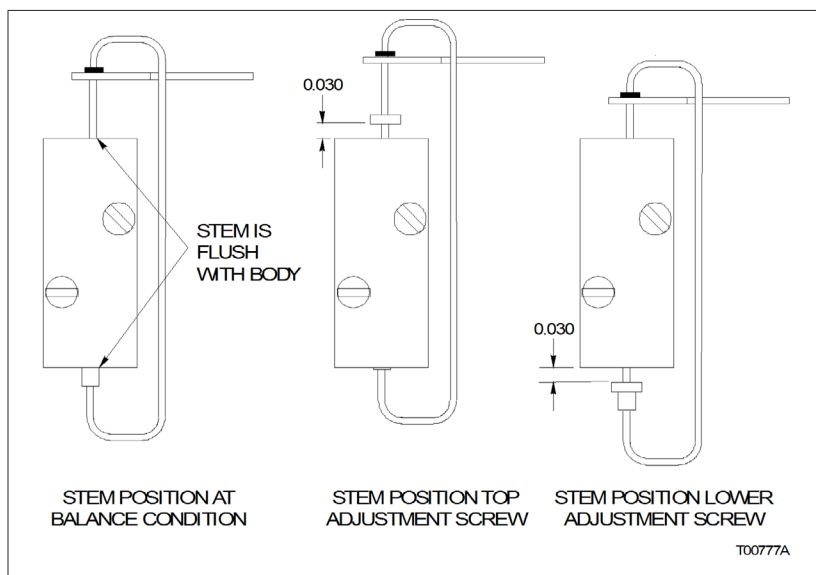
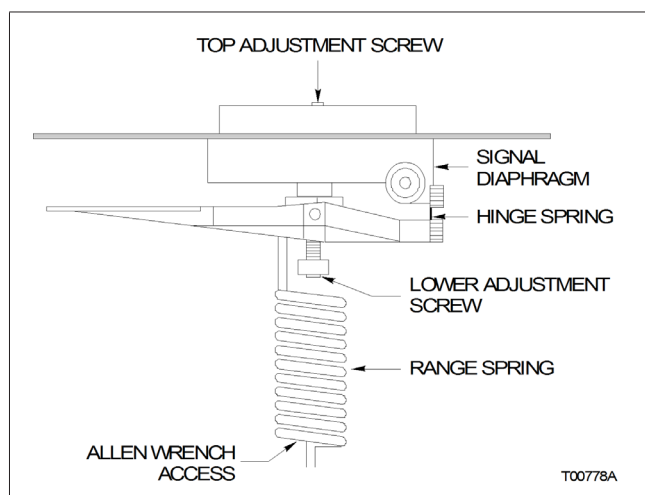

Figure 4-5. Pilot Valve Adjustment
Figure 4-6. Speed Adjustment Screws
The pilot valve stroke is measured by the movement (displacement) of the pilot valve stem, as shown in Figure 4-5. Figure 4-5 shows the maximum stroke length that is also the maximum speed of operation and is how the positioner comes from the factory. Use the following procedure to reduce the speed of operation:
1. Use a $\frac{3}{32}$ -inch Allen wrench to turn the top adjustment screw clockwise $\frac{1}{8}$ -turn to reduce stroke time (Fig. 4-6). ABB suggests $\frac{1}{8}$ -turn increments. Take note of the number of turns. In total, do not exceed one full turn (clockwise) from the factory setting (Fig. 4-5). This adjustment controls the amount of air going to port 01.
2. Use a $\frac{3}{32}$ -inch Allen wrench (the wrench must be at least 5-inches long) to turn the lower adjustment screw clockwise the same amount as the top adjustment screw to insure speed of operation is the same in both directions (if desired). Be careful when accessing the lower adjustment screw. Insert the Allen wrench up through the bottom of the range spring (Fig. 4-6). This adjustment controls the amount of air going to port 02.